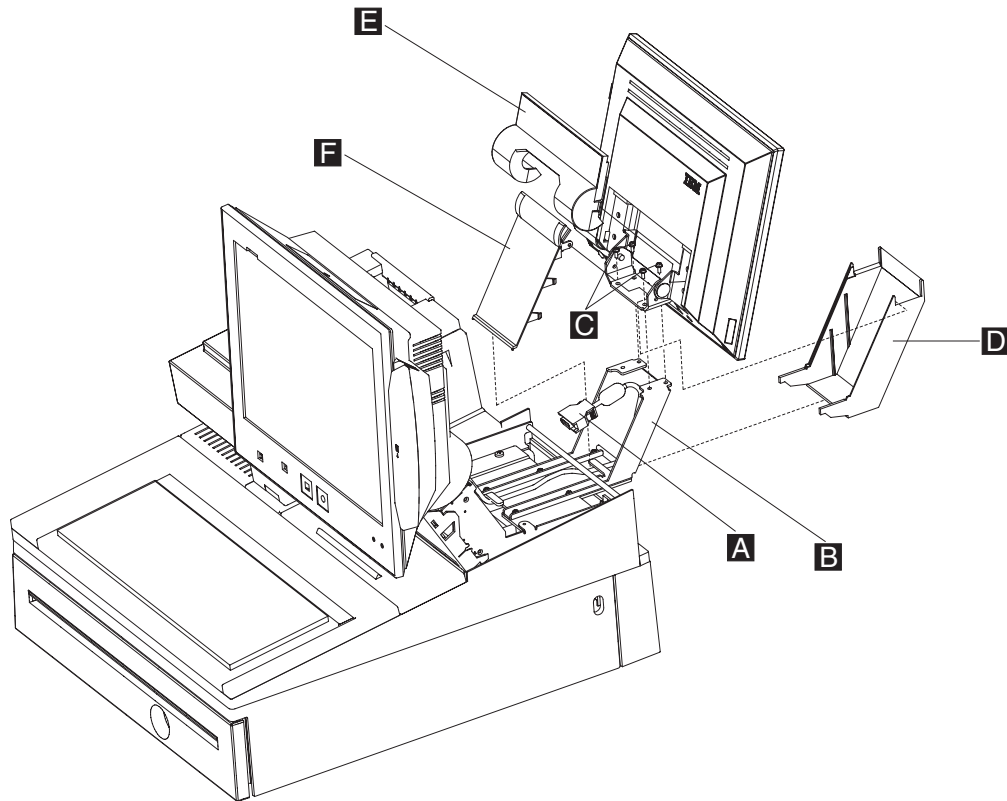

Figure 40. Removing the 4820 SurePoint Solution display cable and covers
- a. Remove the 4820 filler panels in the following order (**E** , **D** , and **F**), as show in Figure 40.